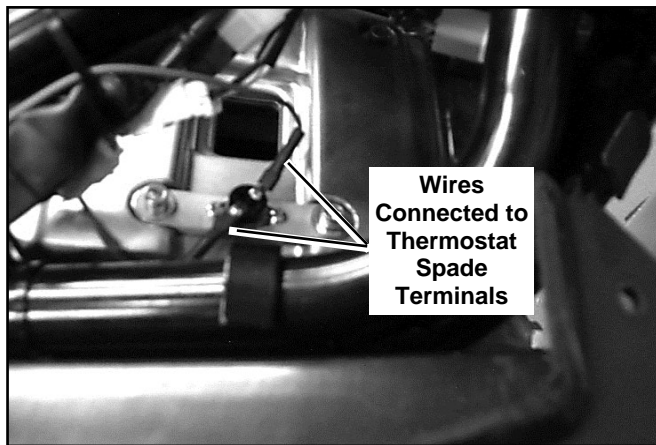

Figure 9. Connect Harnesses to Thermostat
17. See Figure 9. Connect spade terminal wire from each harness to the spade terminals located on the thermostat switch. Order of connection makes no difference.